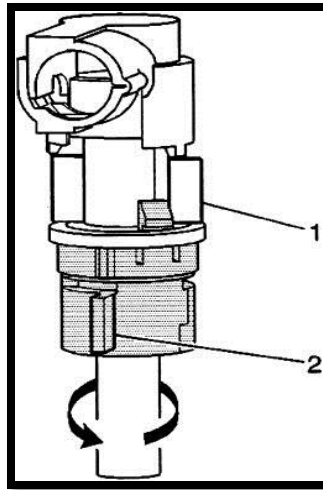

FIGURE 10-2
- 2.0 If equipped with selectable ride, disconnect the Real Time Damping (RTD) link rod from the sensor. Grasp the connector lock tabs. Rotate the connector lock tabs (1) and (2) counter-clockwise until the connector is unlocked. Disengage the connector from the tennon by firmly pulling the connector up. Hold the tennon end with a wrench while removing the nut. Remove the nut. (FIGURE 10-2)